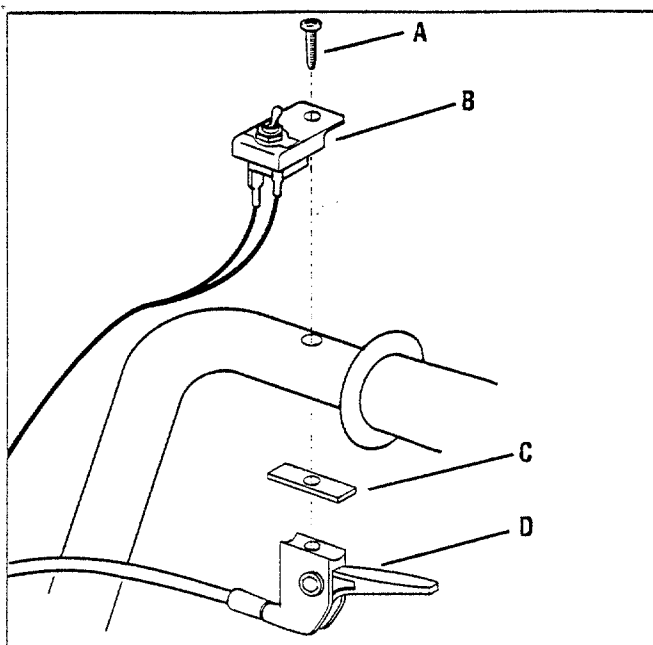

Figure 6: Installing Engine On/Off Switch (B) and Throttle Lever Assembly (D) to right handlebar.
12. Slip the throttle lever mounting screw (A, Figure 6) down through the hole in the Engine Ignition On/Off Switch bracket (B, Figure 6). Then insert the screw down into the hole that is in front of the right handlebar grip. Note that the switch and bracket are to the inside of the right handlebar.
13. Place the rectangular rubber throttle lever spacer (C) over the end of the screw (turn spacer so its "long" end points to the rear).
14. Position the Engine Throttle Lever assembly (D) on the end of the screw.
15. Hold the Throttle Lever Assembly in place. After you've started the screw, use a Phillips head screwdriver to firmly tighten it. See Figure 6.